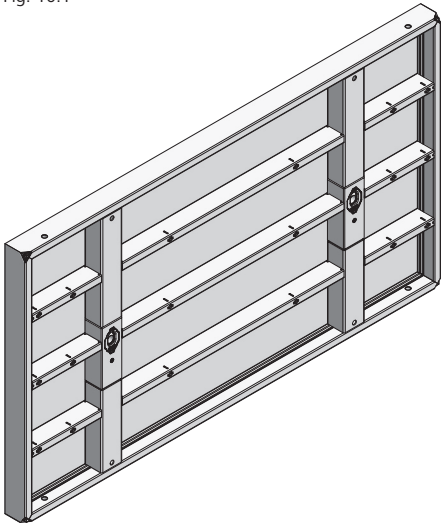

Fig. 10.2
- 135/240 (Fig. 10.2) are particularly suitable.